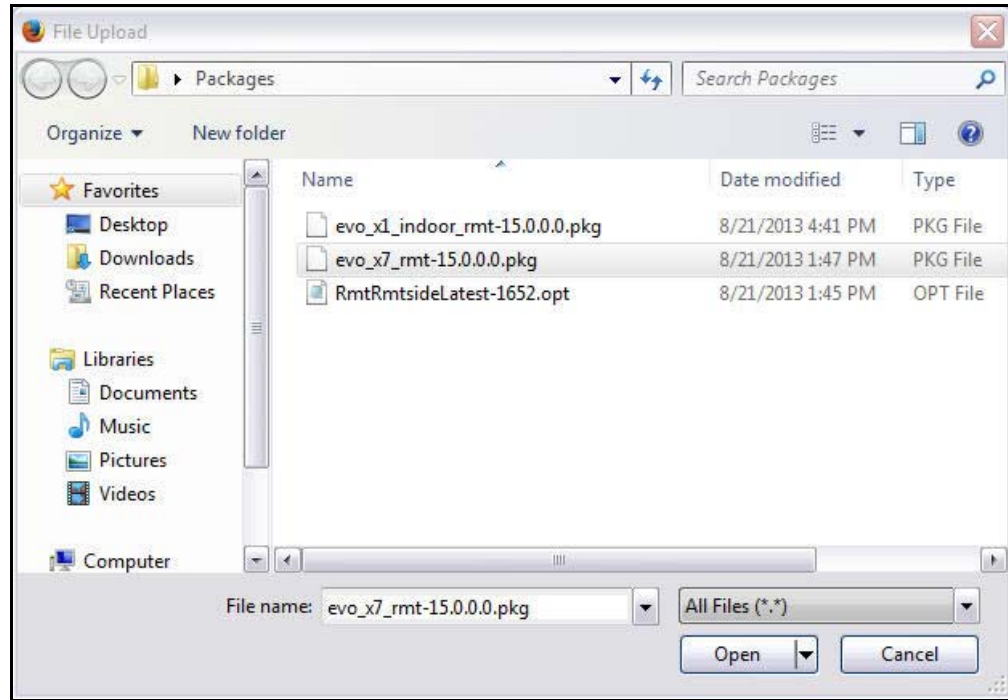

Figure 31. Selecting Package File
3. Navigate to the appropriate model-specific packages on the local PC. They are located in the Images folder created during the unzip operation. See Figure 31.